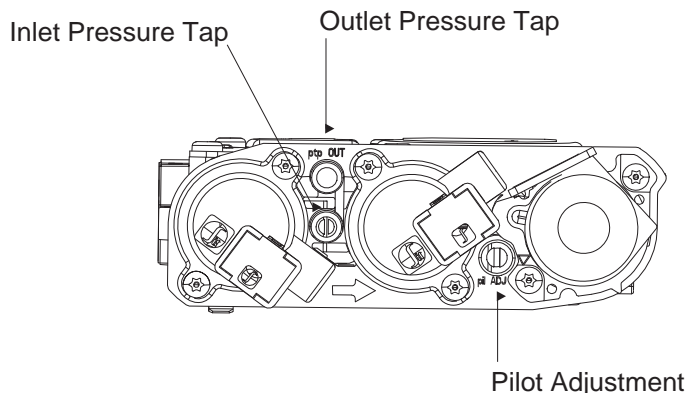

Figure 34 - Gas Pressure Check at Gas Valve
5. To check gas pressures at valve, turn captured screw counter clockwise 2 or 3 turns and then place tubing to pressure gauge over test point. Turn unit to high. See *Figure 34*. After taking pressure reading, be sure and turn captured screw clockwise firmly to reseal. Do not over torque. Check test points for gas leaks.